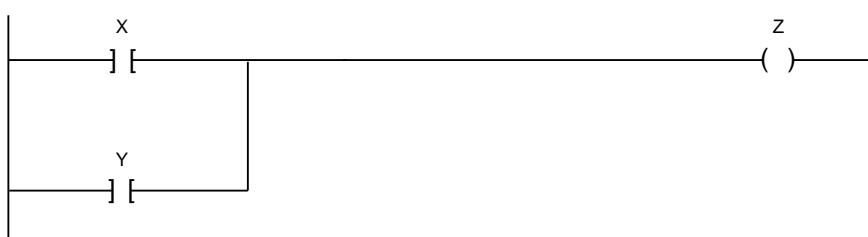

*Fig. 4-10 With instructions programmed in series, output Z will be True (On) only if both input X AND input Y are True (On).*
Condition instructions programmed in series are the ladder diagram equivalent of AND logic (Fig. 4-10). For example, picture a metal stamping operation where the machine activates only if the operator simultaneously pushes both a left-hand start button (X) AND a right-hand start button (Y).